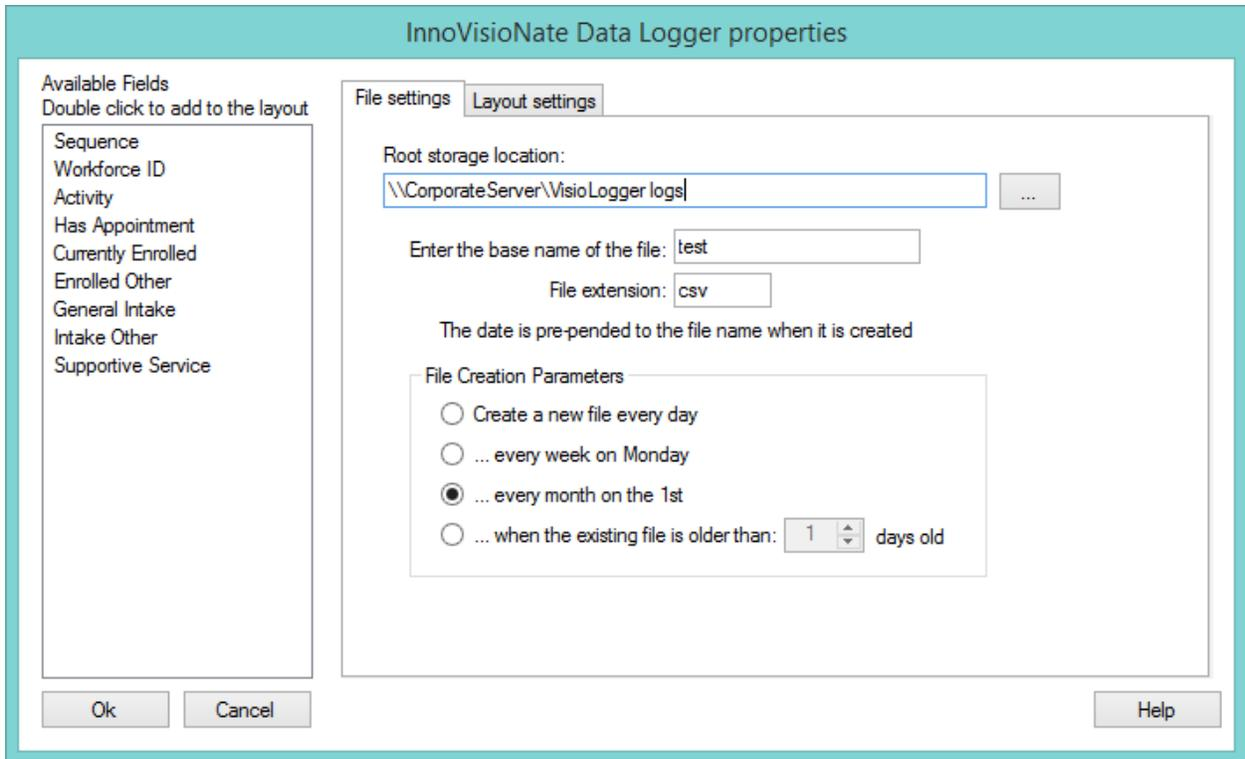

Figure 2 Data Logger File Settings property
By selecting the button under the Props column for the tool, we see the Data Logger properties as in Figure 2 and 3. Note that you can use *either* Props button in the above figure, they take you to the same place.
In Figure 2 we focus on the right side, the "File settings" options, which indicate where and when any logging flat files should be created.
**Hint:** Selecting the Help button in the lower right of Figure 2 opens up this document, for a handy, real time, reference.
In the settings shown in Figure 2, define your Root Storage location. This is probably a network drive available to the computer that Visio Logger is running on. Note that this location must be visible and writable to the computer even after the administrative user doing configuration has logged off.
Referring to the bottom half of Figure 2 we discuss the frequency of the creation of the logging files themselves.
As a concrete example, if the option in Figure 2 to create the file on the first of every month is chosen (as it is in the figure), then the "date" that the file name starts out with is the date of the first of the month.
The SignatureId field is always selected and is required. This field is the unique ID field that every Visio Logger data row contains. Note that if you have multiple computers logging to multiple files (i.e., *different* base names in the options of Figure 2) all using the *same* networked Visio Logger database, then, and only then, the SignatureId fields will be unique even **across** these multiple log files. However, if these computers are using *different* databases, perhaps each is using a database installed on its local drive, then do **not** rely on the uniqueness of the SignatureId field value in these log files.